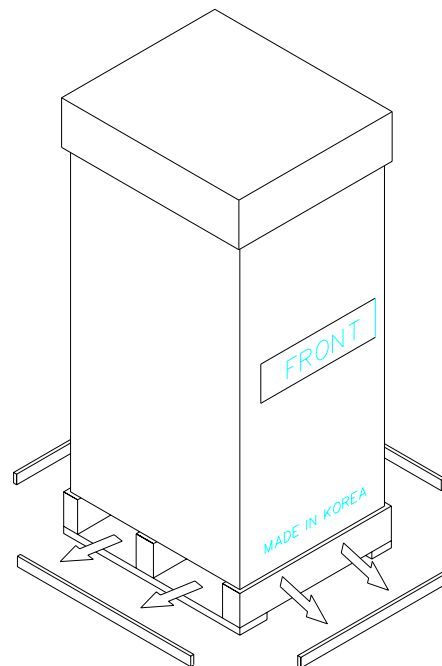

Fig.2
2. Use an appropriate tool to remove the nails from the pallette. (refer to Fig.2)